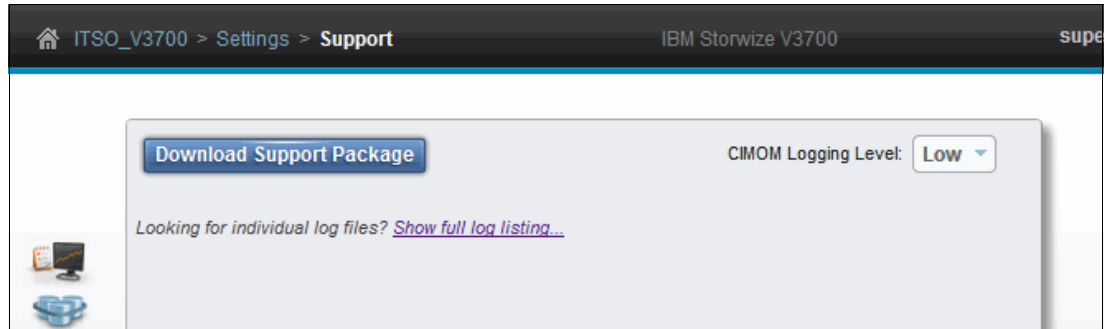

Figure 11-21 Configuration backup: Show full log listing
2. Select the **Show full log listing** option to list all of the available log files that are stored on the configuration node, as shown in Figure 11-21.